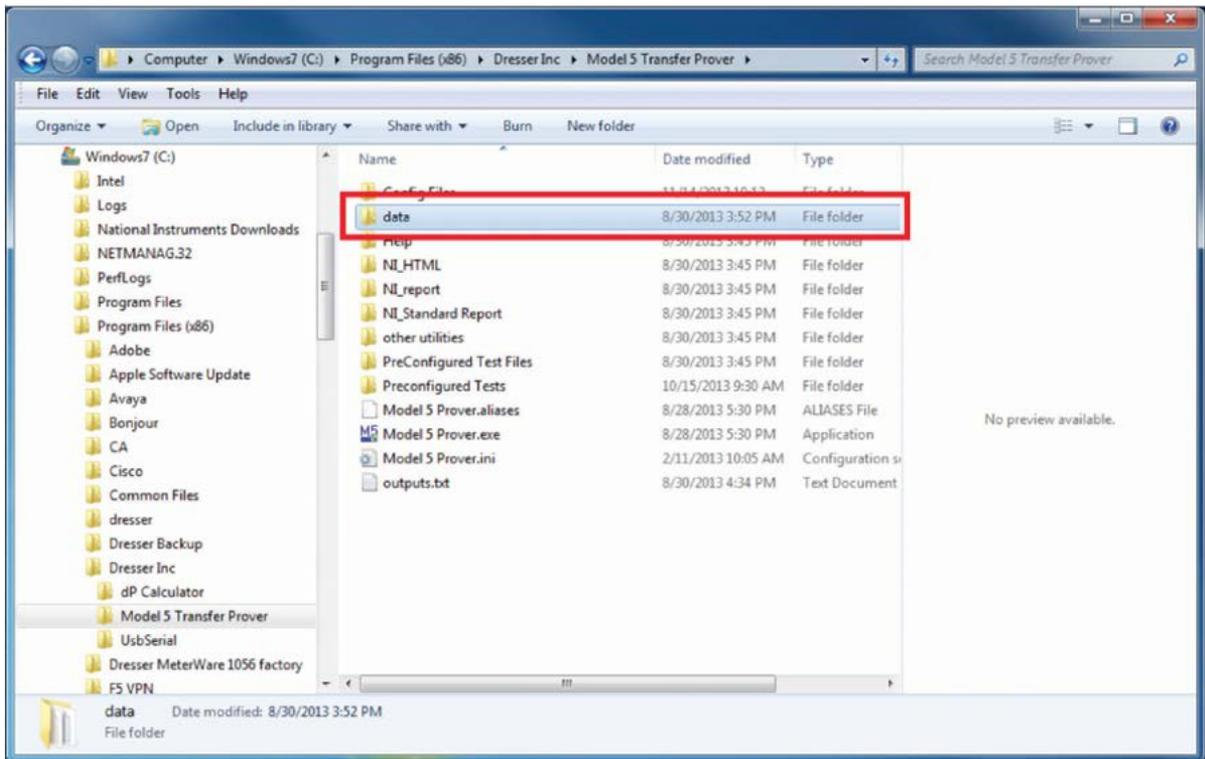

Figure 4: Find “data” folder
4. Within the “Model 5 Transfer Prover” folder, select the folder entitled “data” as shown in **Figure 4**.